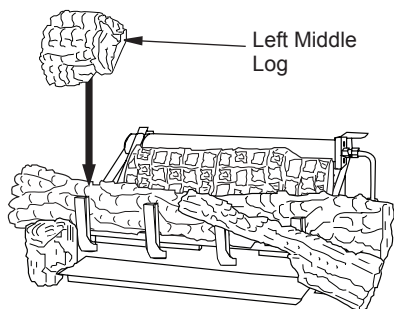

Figure 41 - Installing Left Middle Log
6. The left middle log (18" D-066, 24" & 30" D-040) has a groove on the bottom to sit on the chassis and has to sit on the tab on the back of the left front log as shown in Figure 41.